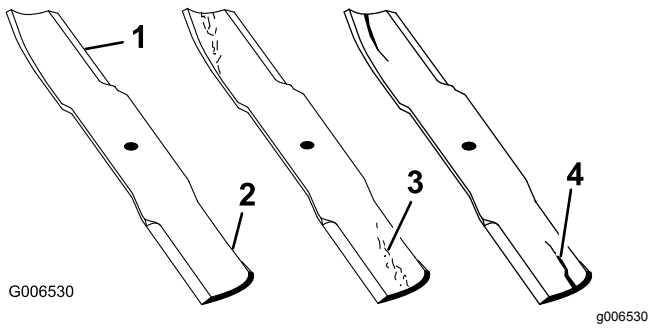

Figure 42
1. Inspect the cutting edges (Figure 42).
2. Inspect the blades, especially the curved area (Figure 42).
Note: If you notice any damage, wear, or a slot forming in this area (items 3 and 4 in Figure 42), immediately install a new blade.